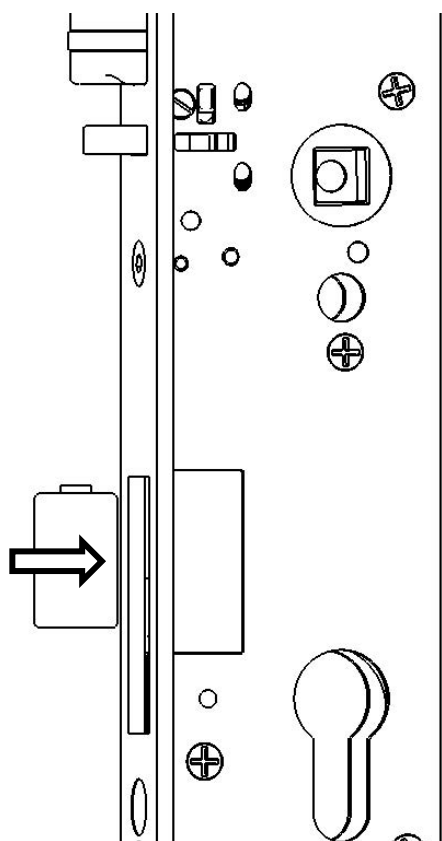

Fig. 4.6 – Inserting the battery
- Insert the battery into the opening on the GDL7m as far as it will go (Fig. 4.6).